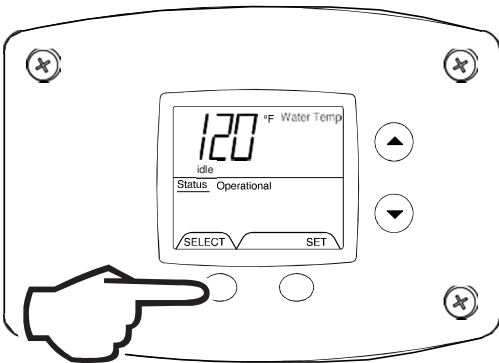

Fig. 33
2. Water Temperature Average (Displays average if there are two sensors – sensor temperature displayed if single sensor is used) (Fig. 33).